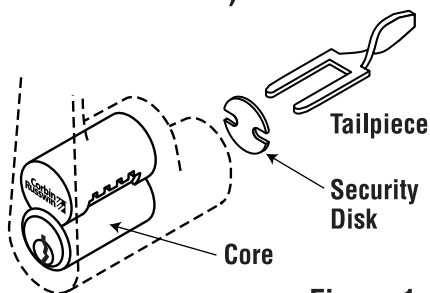

Figure 1
- A. Slip security disk onto prongs of tailpiece and insert tailpiece into two holes in back of core. See Figure 1.